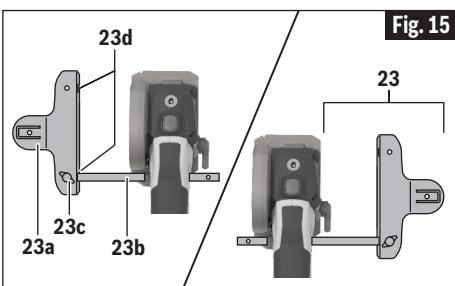

Fig. 15
### ASSEMBLY (Fig. 15)
**NOTE:** When using the straight edge guide **23** on the left side or right side of the tool, position guide as shown (Fig. 15).
Rip cuts are easy to do with an edge guide (Fig. 17). To attach, insert bar **23B** (Fig 15) through slots in foot to desired width as shown and secure with the set screw **23f**.